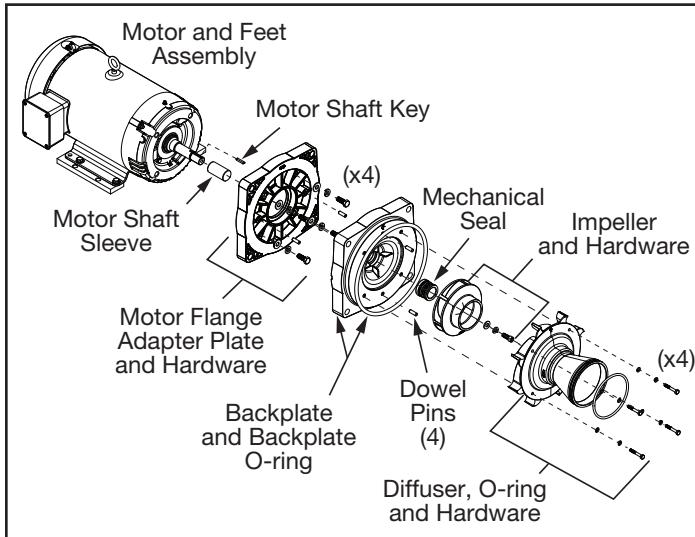

Figure 14. Remove Mechanical Seal, Impeller, Diffuser and Motor Accessories
10. Using a 7/16 wrench, loosen the four (4) Hex Screws securing the Diffuser to the Backplate. Carefully pull off the Diffuser and remove the Diffuser O-ring. See Figure 14.
16. For motors with a NEMA 182-184 JM frame, use a 9/16" socket wrench to loosen the four (4) hex screws securing the motor flange adapter plate to the motor. For NEMA 213-215 JM frames, use a 3/4" socket wrench. Carefully pull away the motor flange adapter plate avoiding any impact to the motor shaft and set aside. See Figure 14.